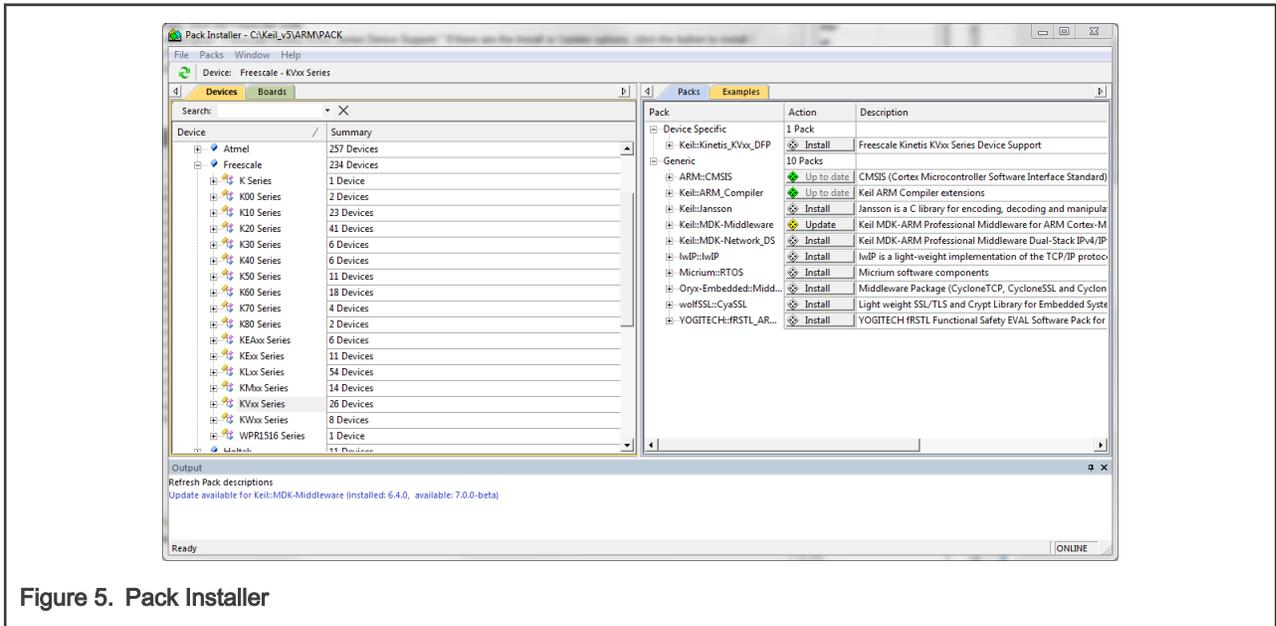

Figure 5. Pack Installer
6. Look for a node called "Keil::Kinetis_KVxx_DFP." If there are the Install or Update options, click the button to install/update the package. See Figure 5.